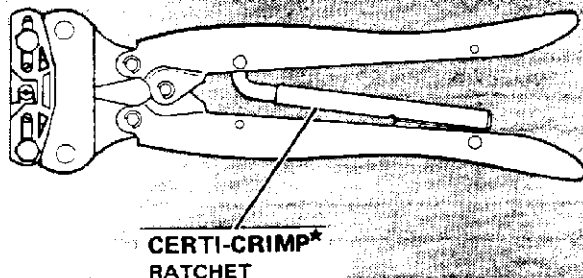

Fig. 1
- Open Crimping Dies by closing Tool Handles until CERTI-CRIMP Ratchet, See Figure 1, releases. Note that once Ratchet is engaged, the Handles cannot be opened until they are fully closed.